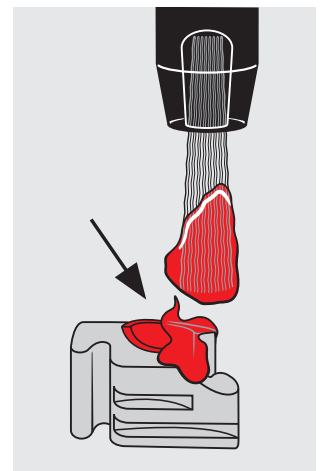

Fig. 2
4. Coat the inside of the Mini-SG® tuning female part (Fig. 2) with Vaseline (to prevent acrylic flowing into it).